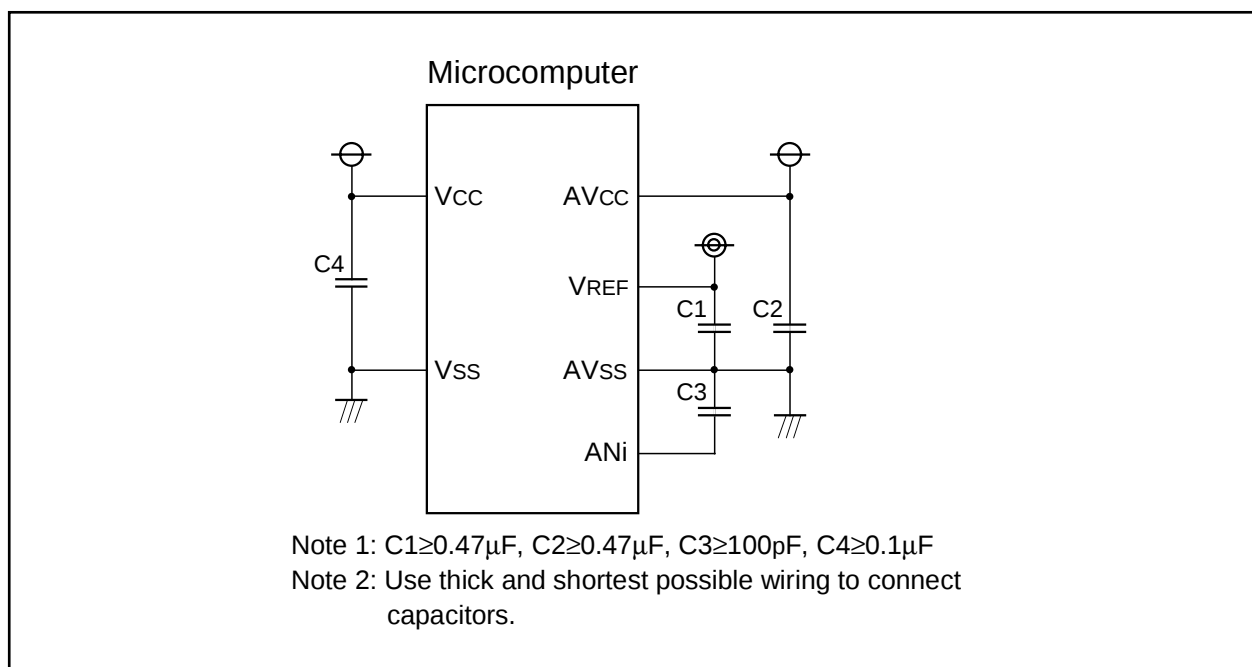

Figure 1.20.10. Example connection of VCC, VSS, AVCC, AVSS, VREF and ANi
- (1) Set the direction register of the following ports to input: the port corresponding to a pin to be used as an analog input pin and external trigger input pin(P97).
- (2) In using a key-input interrupt, none of 4 pins (AN4 through AN7) can be used as an A-D conversion port (if the A-D input voltage goes to "L" level, a key-input interrupt occurs).
- (3) Insert the capacitor between AVcc and AVss, between V_{REF} and AVss, and between the analog input pin (ANi) and AVss, to prevent a malfunction or program runaway, and to reduce conversion error, due to noise. Figure 1.20.10 is an example connection of each pin.